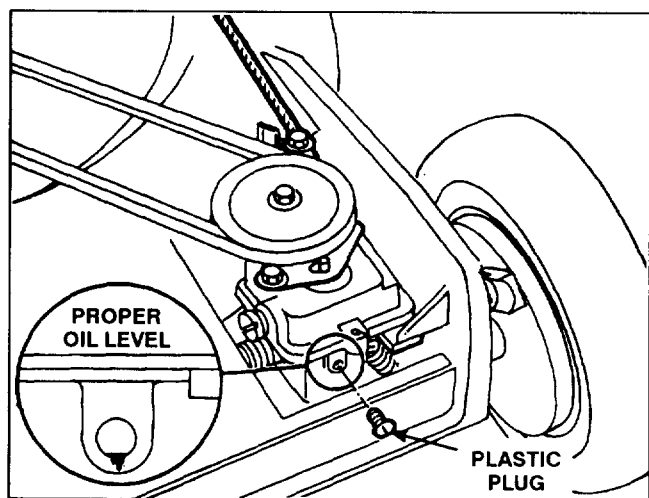

Figure 20
3. CHECKING GEAR OIL LEVEL (Fig. 20)—Position mower on level surface and clean around plastic plug. Remove plastic plug and watch for oil to ooze out of hole. If gear oil oozes out, quickly install plastic plug because oil is at proper level. If oil does not flow, add gear oil: see step 4.